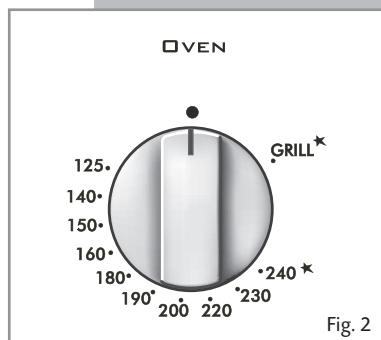
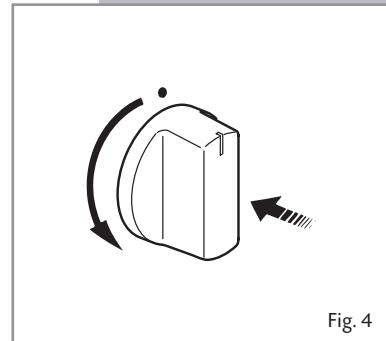

Fig. 2
Fig. 4
The values from **125°** to **•240*** printed on the facia panel around the thermostat knob (fig. 2) show in a growing sequence the oven temperature in °C.
- 2 – Press the thermostat knob (fig. 2) thoroughly to start up the electric ignition and, keeping the knob under pressure turn it anti-clockwise (fig. 4) to position **•240 ***.